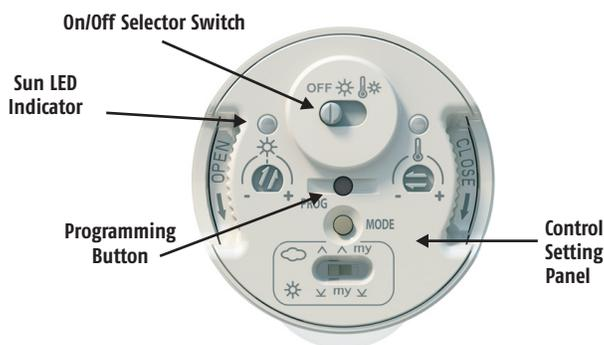

Figure 1
4. Using a paper clip, pen or similar device, briefly press the Programming Button (for 1 second) located on the control setting panel of the Thermosunis (See Figure 1). The RTS receiver or motor will confirm the addition of the Thermosunis sensor in their respective manners.
1. Using a paper clip, pen or similar device, press and hold the Programming Button (approximately 3 seconds) on a previously addressed Thermosunis or Telis Transmitter. (See Figure 1). The RTS receiver or motor will confirm Programming more their respective manners.
2. Using a paper clip, pen or similar device, briefly press the Programming Button (for 1 second) located on the control setting panel of the Thermosunis to be deleted (See Figure 1). The RTS receiver or motor will confirm the deletion of the Thermosunis sensor in their respective manners.